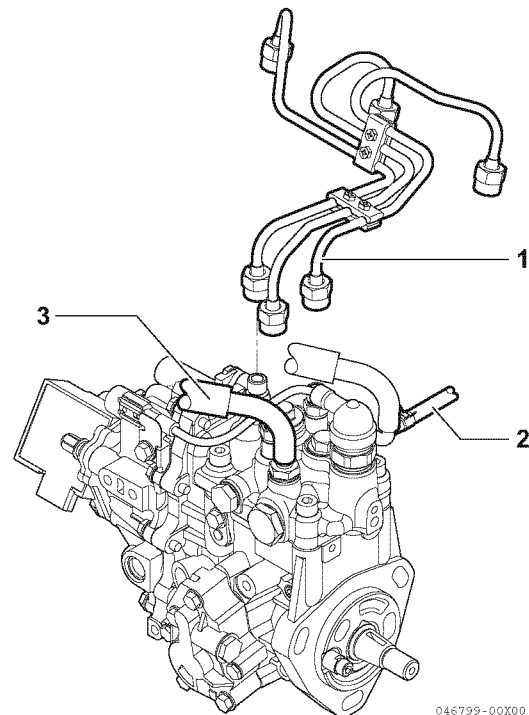

Figure 7-6
5. Remove the high-pressure fuel injection lines as an assembly (1, **Figure 7-6**).
8. Disconnect the fuel return lines from the fuel return fitting (2, **Figure 7-6**). Plug the open ends of the lines to minimize leakage and prevent contamination.
9. Remove the fuel supply line (3, **Figure 7-6**). Plug the open end of the line to minimize leakage and prevent contamination.